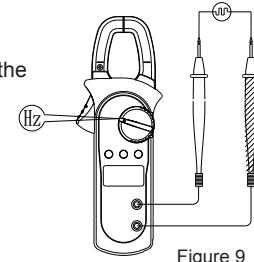

Figure 9
7. Frequency measurement (Hz) (See Figure 9)